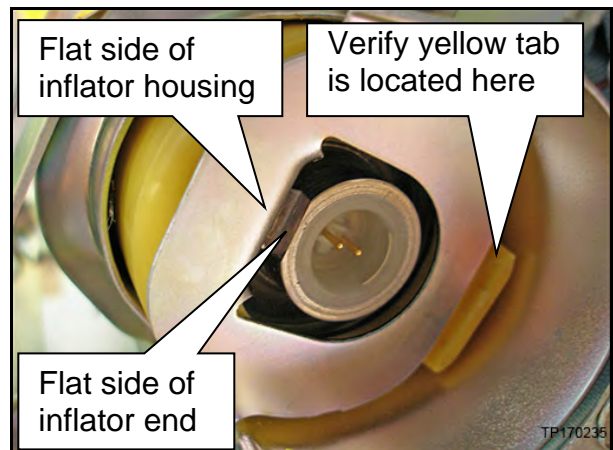

Figure 22
- When the inflator is properly oriented, the yellow tab will be in the position shown in Figure 22.